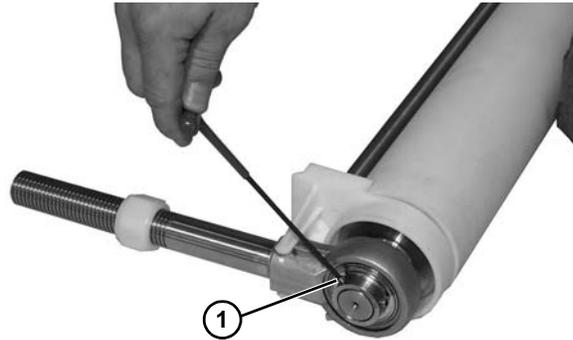

Figure 66
- Use a 4 mm hex wrench to loosen the bearing shaft assembly fasteners (Figure 66, item 1).